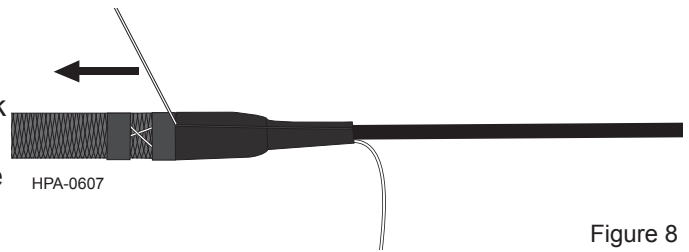

Figure 8
**Step 2:** Working with one rip cord at a time, pull the rip cords through the heat shrink to split it (Figure 8). The heat shrink has factory-installed starter notches to make this task easy.